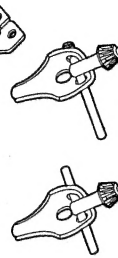

Figure 5
3. Push ends of chuck key handle through two holes in end of holder (Figure 5).